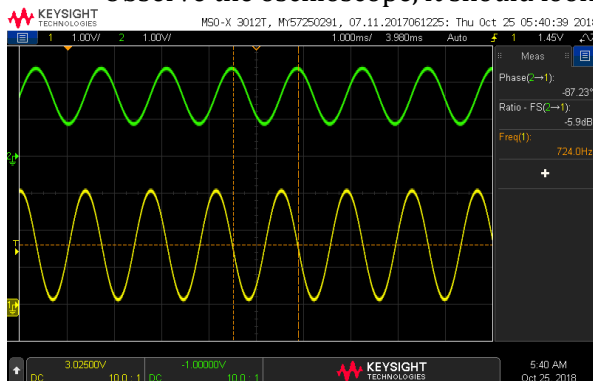

Figure 10: The input and output of the low-pass filter.
- Observe the oscilloscope, it should look something like Figure 10,